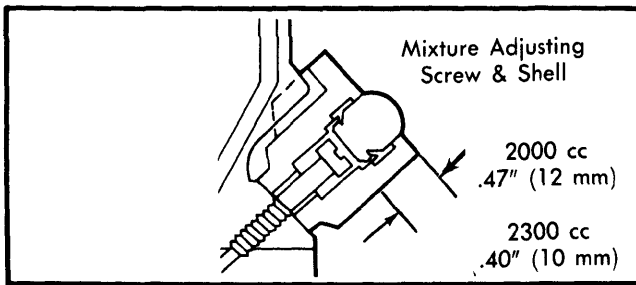

Fig. 3 Mixture Adjust Screw and Shell Removal
3) Remove mixture adjusting screw shell by pulling outward on shell while turning it counterclockwise or cut shell off at points shown in Fig. 3. Connect exhaust gas analyzer to vehicle.